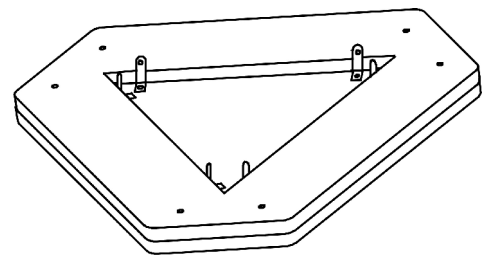

Figure 1
1. Fasten white angle brackets to top and bottom panels with silver screws. Be careful to use the shorter ones for the top panel. A shelf can be used as a guide. (Figure 1)